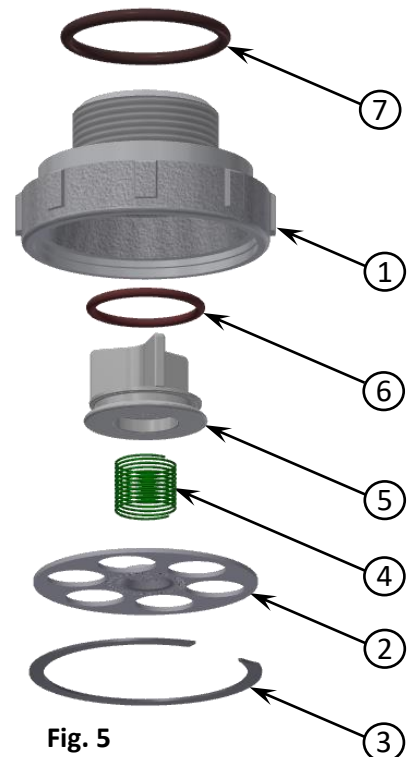

Fig. 5
- 6.1 Remove the Retaining Ring **(3)** using a flat head screwdriver. See figure 5.